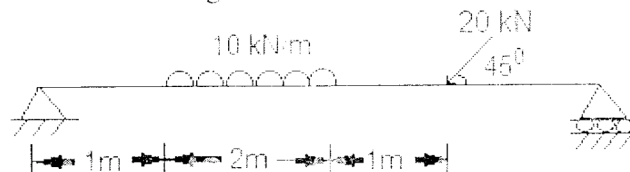

Figure 1
4. Draw shear force and bending moment diagrams for the beam shown in figure 1. Also find maximum bending moment.